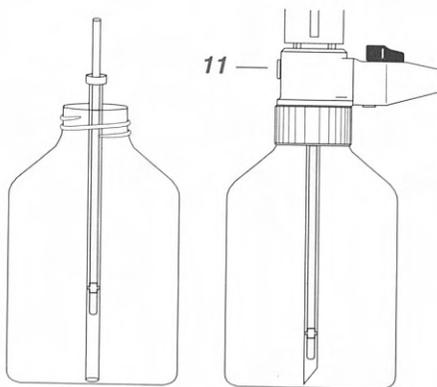

Fig. 2
- Determine the necessary length of the telescopic filling tube by measuring the distance from the bottom of the bottle to the top of the threaded base (Fig. 2).